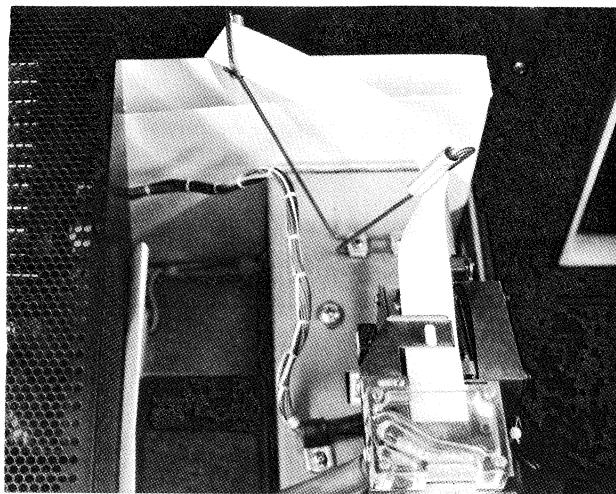

Figure 3-1 Paper Tape Path, Top View
3.3.1 Loading Blank Tape (refer to Figure 3-1)
- e. Feed the new tape out of the carton, with the printing face down. Route the tape through the two rollers, over the out-of-tape switch and guide plate, directly into the punch block (Figure 3-1).